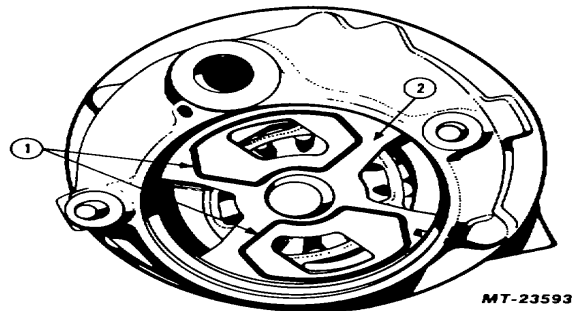

Fig. 35 Installing Rear End Plate
10. Install rear end plate over locating pin in pump housing with gasket side up, Figure 35.